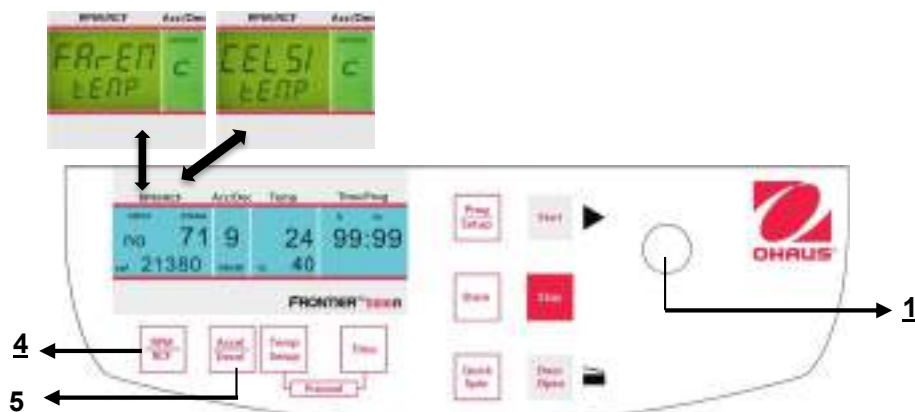

Figure. 31
the word **"CELSI"** flashes and you can change the display into Fahrenheit **"FAREN"**, with the adjusting knob (1) (See figure 31).